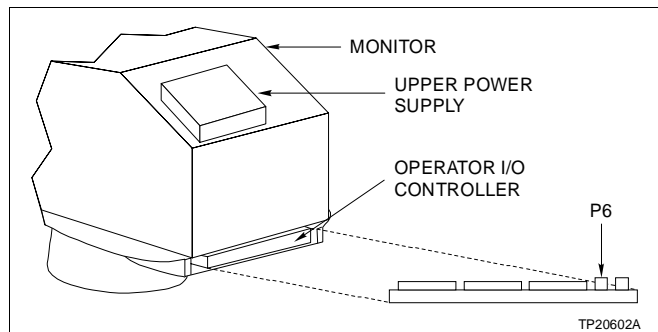

Figure PR43-2. Operator I/O Controller
- 6. Use the DMM, set to measure VDC, to measure between P6-1 (+5 VDC) and P6-2 (common) on the operator I/O controller (Fig. PR43-2). The DMM should read +5.00 VDC (+0.25 VDC, -0.00 VDC).